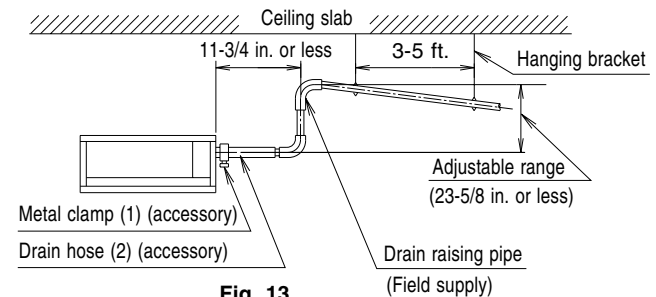

Fig. 13
- Place the drain raising pipe vertically and make sure it is no further than 11-3/4 in. from the unit. (Refer to Fig. 13)